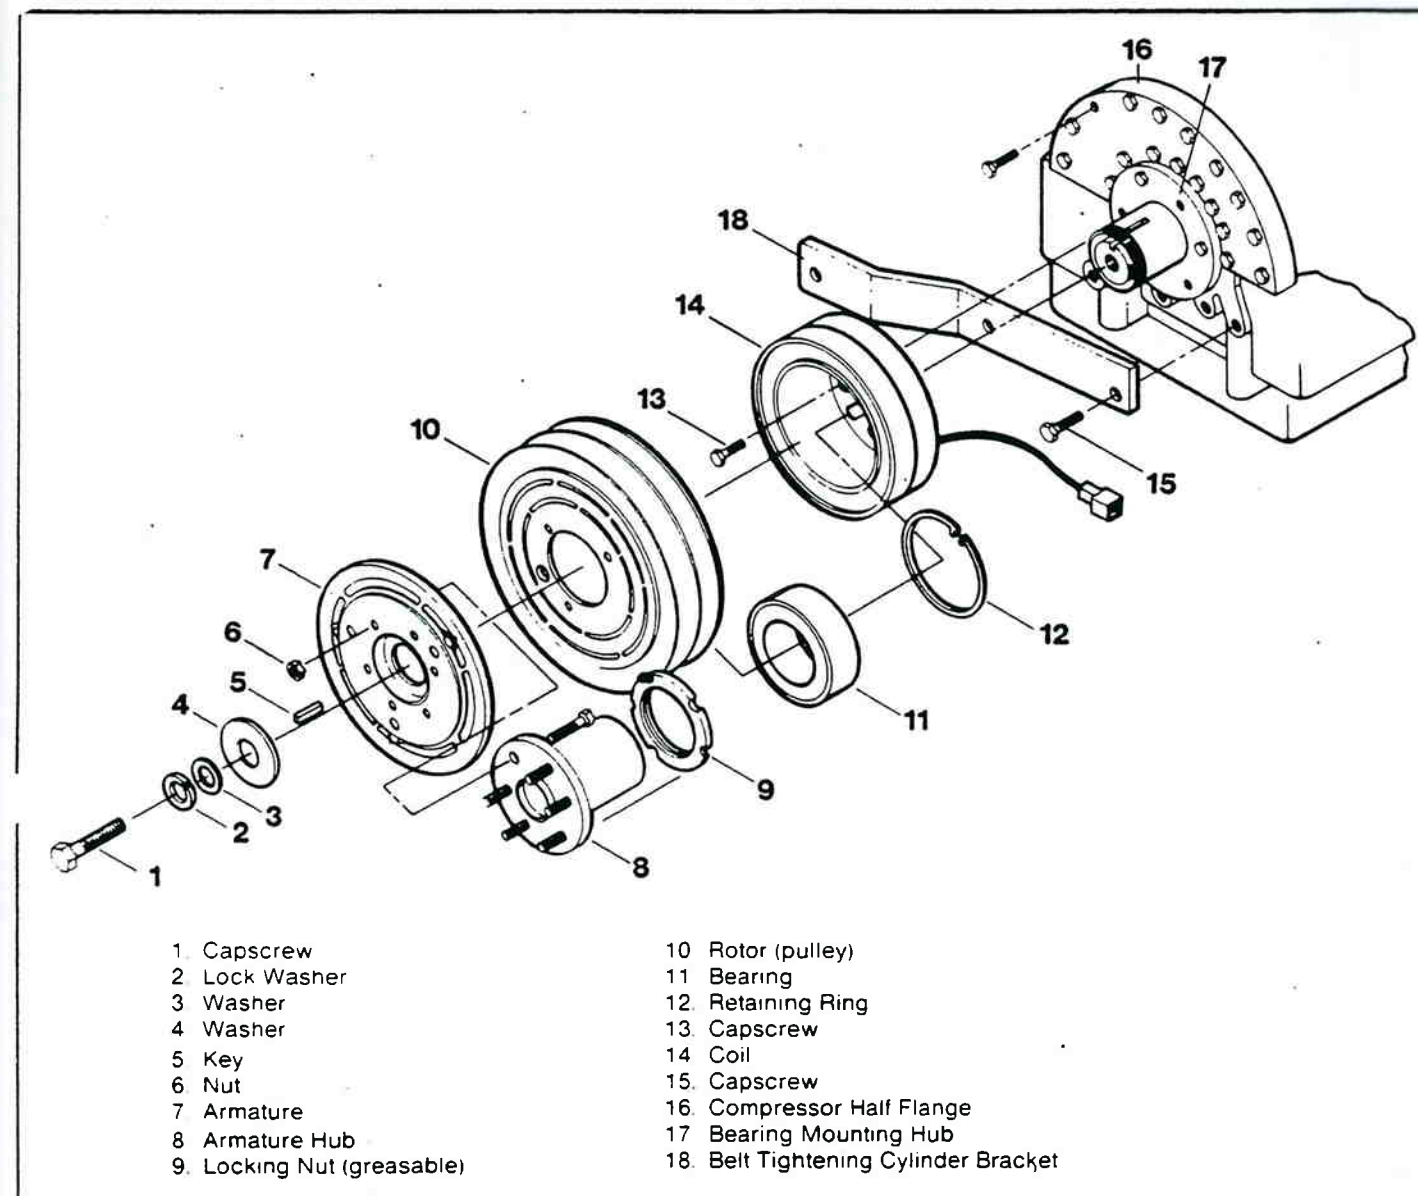

Figure 16-50: Housing-Mounted Compressor Clutch
1. Remove the retaining ring from the rotor bore (figure 16-50).